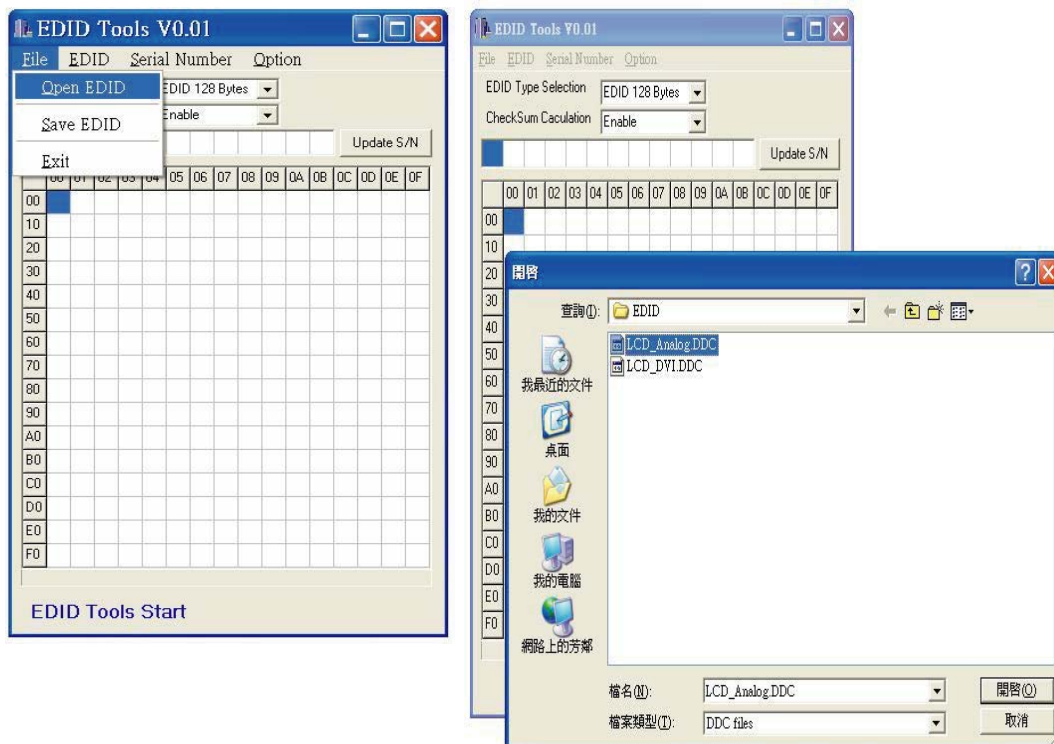

Fig.6
2. Press File->OPEN EDID to Load DDC file as shown in Fig.6.